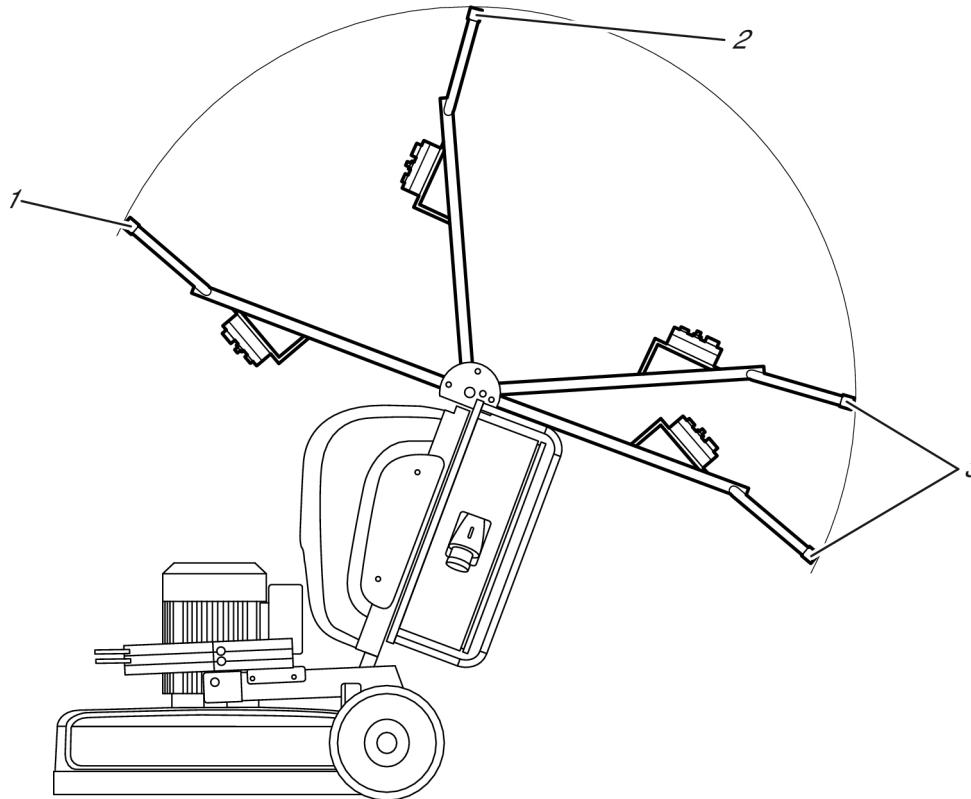

Figure 4-1. Handle settings
1. Set the handle to the rear position - see Figure 4-1, page 13
4. Set the handle to the working position, see Figure 4-1, page 13.